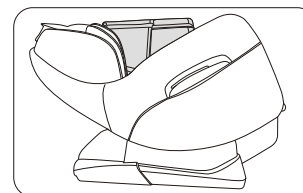

Figure 1
- Open the master carton, take down the calf rest. (figure 1)